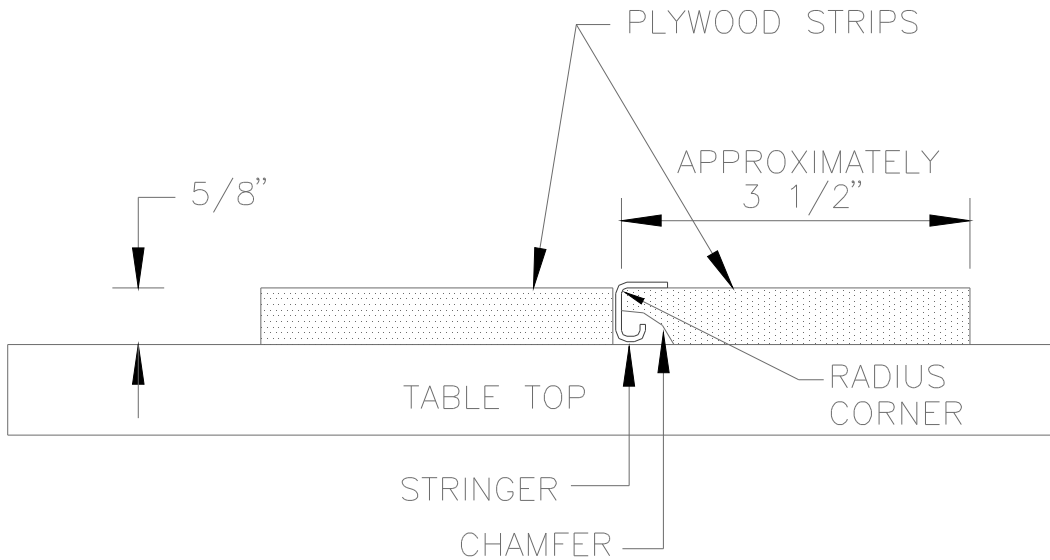

Figure 2.8.1
- b. On one of the lengths chamfer the full length to clear the stringer return, see fig 2.8.1.